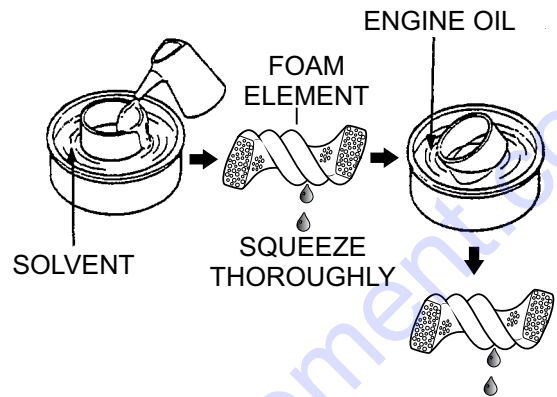

Figure 30. Cleaning Foam Element
2. Replace or clean foam element in warm, soapy water or nonflammable solvent (Figure 30). Rinse and dry thoroughly.